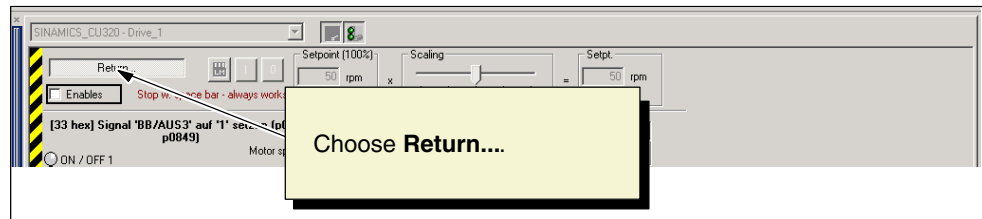

Fig. 4-11 Infeed control priority
12. Choose **Return...** to terminate the connection to the drive unit (see Fig. 4-11).